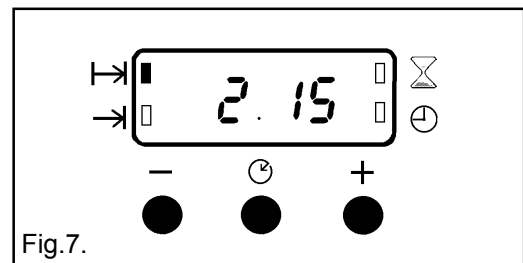

Fig.7.
- iii) To set the length of cooking time, press the Selector Control button (⌚) until the 'Cook Time' indicator is illuminated (T→). Press the increase control (+) until the required length of cooking time is displayed, e.g. 2 hrs 15 mins as Fig. 7. If necessary depress the decrease control (-) until the correct time interval is achieved.